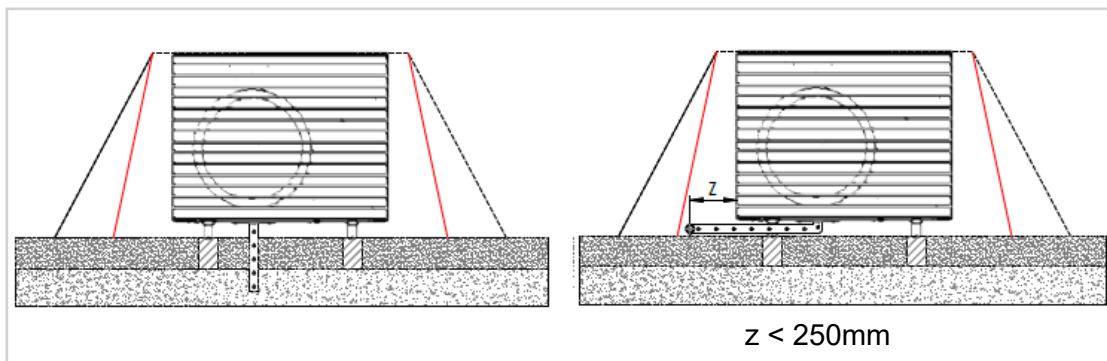

figure 9 - Evacuation into a bed of rubble or gravel
If the appliance is installed in a region where the temperature may fall below 0 °C for long periods, fit the condensate drain hose with a trace heater to prevent it from icing over (see Figure 9 page 38).
- Installation under a shelter or an alcove causes the unit's performances to drop. To limit this drop, an alcove must have 2 open opposite faces in the axis of the fan. If due to location, the open sides cannot comply with this rule, provide a removable enclosure around the unit to separate the air inlet and outlet. A gutter or drain should be installed to drain condensation water (see Figure 9 page 38).
Each unit is therefore equipped with a hole on the base of the hydronic kit on the battery side for the evacuation of any condensation that may penetrate through the pipes of the hydraulic system. As these pipes are well insulated, the production of condensation is minimised and it is therefore not necessary to connect a drainage pipe to this connection (see Figure 9).